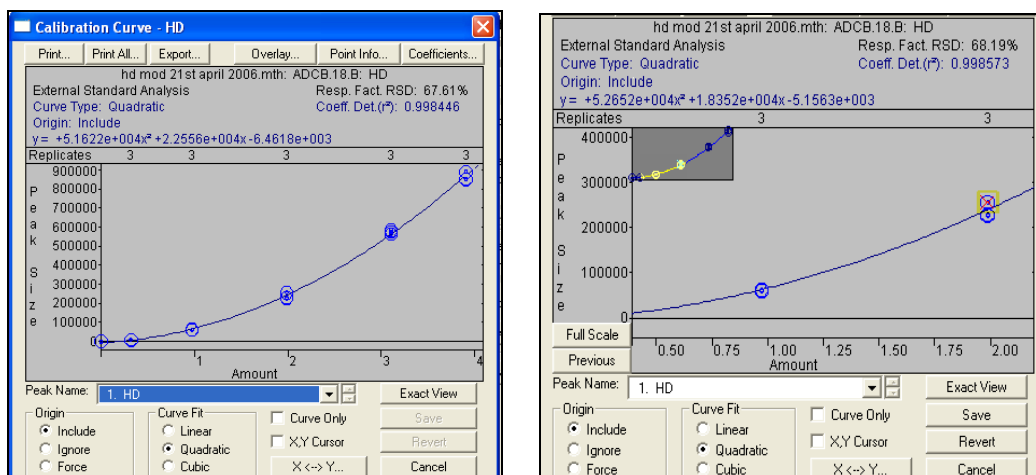

Figure 6: Calibration Curve (left) with Expanded Region (right)
- 5) Click on 'View Curves'. The regression value can be seen in the right-hand-side top corner of the window (see left-hand side of figure 6)10.
- 6) The mouse can be used to expand certain regions. To revert to zoomed out curve, double click on 'Small chromatogram' (top left of enlarge region, right-hand side of figure 6).